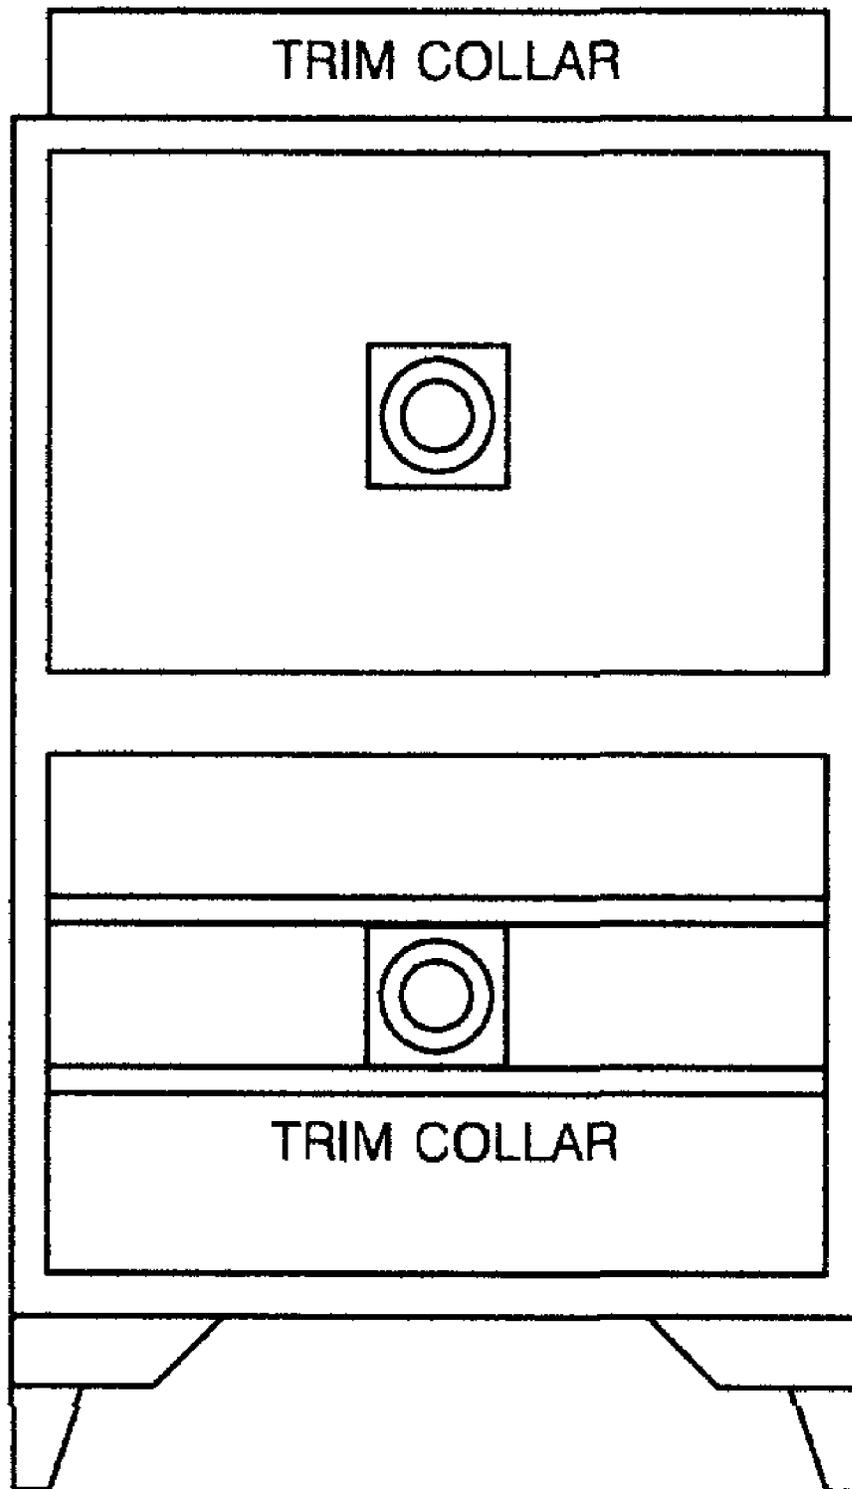

Figure 8-13. Trim Collar Installation
3. Install collar in proper position at top of oven as shown in Figure 8-13.